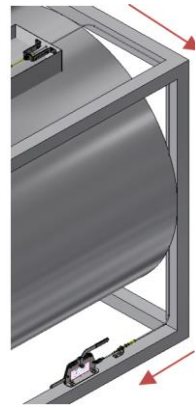

Figure 9
-Remove if necessary the components at the end before inserting the cable trough the sleeve (if there is one) along the frame work until the suitable position of the remote control Fig. 9. Check the distance of the cable before.